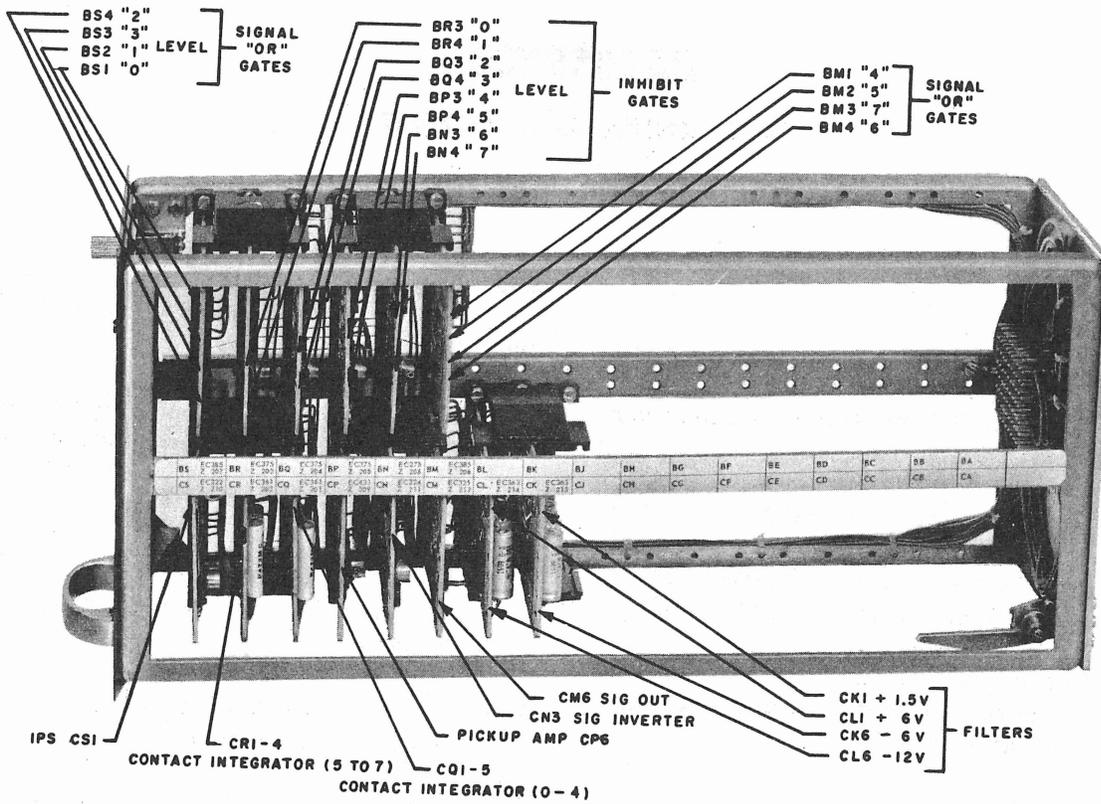

Fig. 1 - DATASPEED Signal Converter 1A-TTSC
**2.04** Fig. 1 and 2 are of tape sender electronic modules. Fig. 3 and 4 illustrate tape receiver electronic modules.